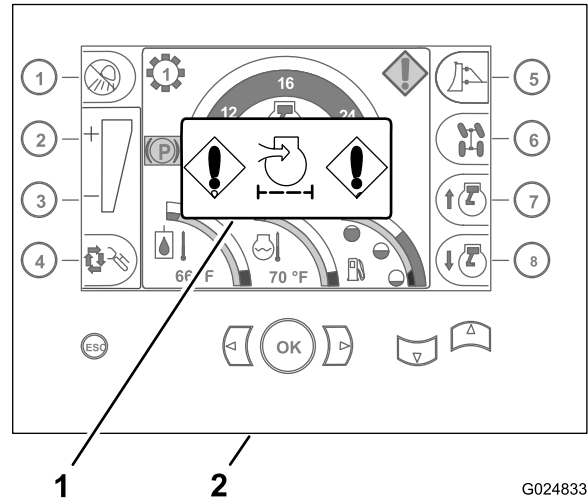

Figure 28
2. Check to see if the restricted air-cleaner indicator is displayed in the home screen of the command center (Figure 28).